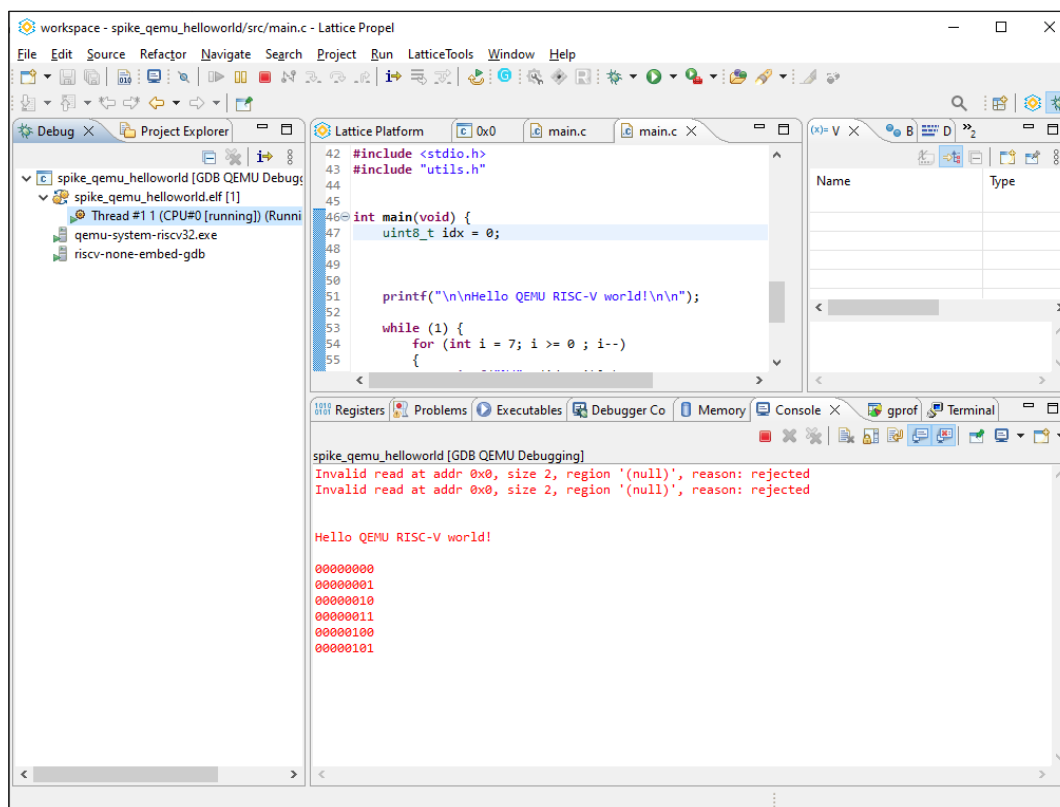

Figure 8.4. QUMU C Project Running Windows
4. Click the **Resume** icon  on the toolbar. The Console outputs running logs (Figure 8.4).